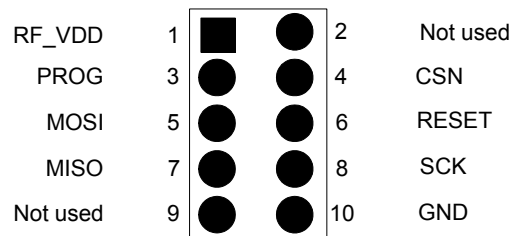

Figure 13. nRF ISP interface pin out
A nRF ISP interface (P16, ⑮ in Figure 2.) is available on the nRFgo Motherboard to enable in-circuit programming (ISP) of nRF devices. This interface enables ISP on your application boards. Figure 13. shows the pinout of the ISP connector. Please refer to nRF device product specifications for details on the program interface pinout on each nRF device.